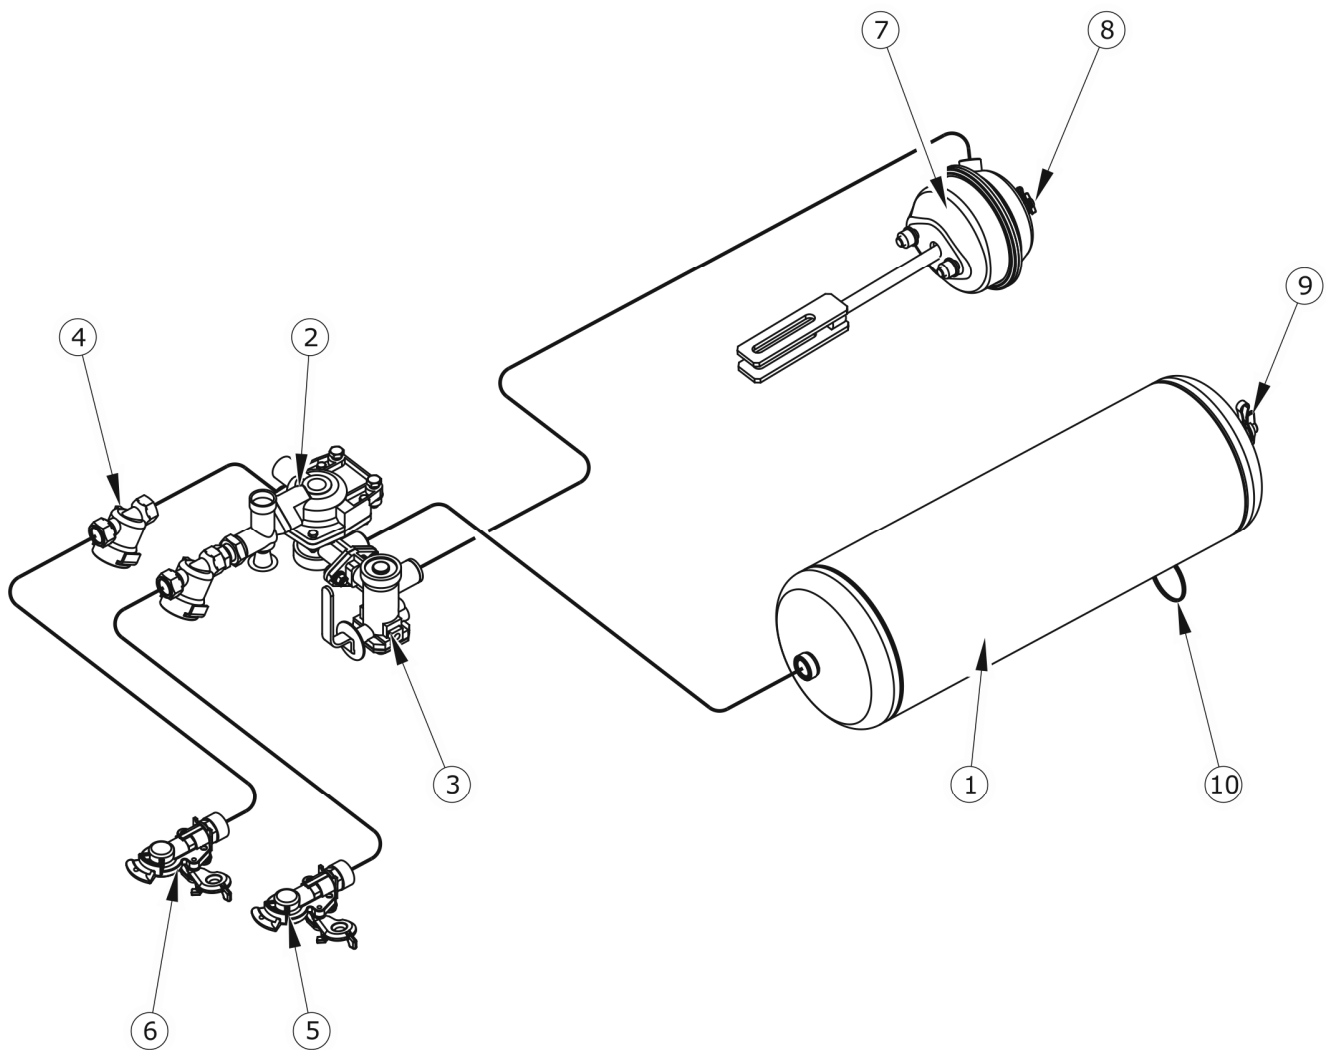

FIGURE 3.10 2-line pneumatic system
- Double line pneumatic system with 3-position controller - Figure 3.10;